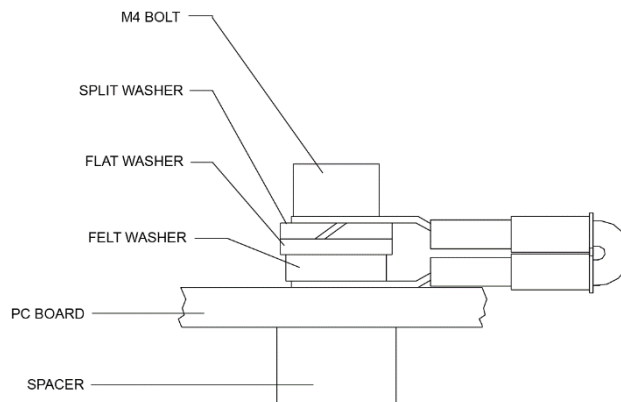

Figure 27. Ground Jumper
2. Using a 3 mm Allen wrench and a 7mm wrench remove the nuts from the bolts that secure the Spare Boards together. You will be using these bolts to secure the spare set in your system. DO NOT change the position of any of the bolts. The bolt containing the felt washers and ground jumper must remain in the same position (see Figure 27).